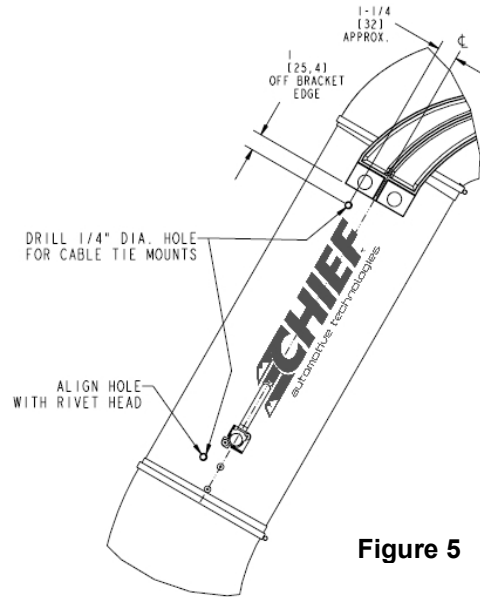

Figure 5
- 7.1. Drill two 1/4" holes in the rigid duct section, one near the middle elbow and one near the damper handle. The hole locations are specified on Figure 5.